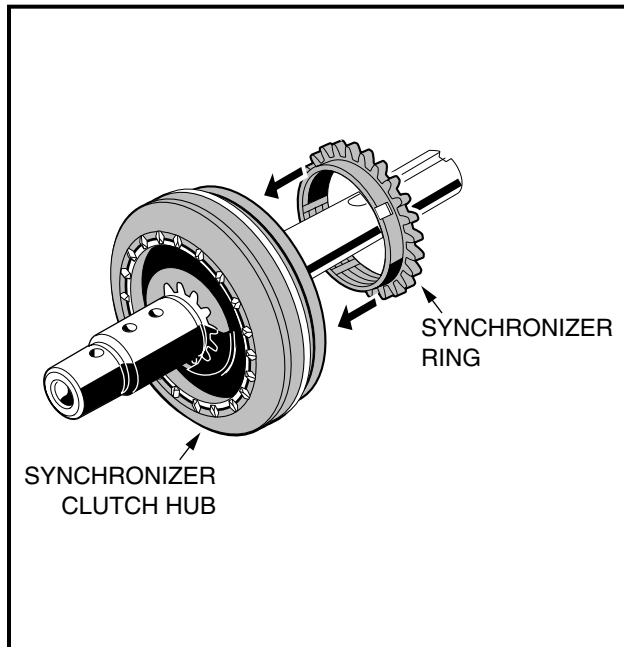

Figure 7-32 Synchronizer Ring
- 1.5. On the long end of the shaft (54), install the synchronizer ring (48) (**Figure 7-16, Page 7-9**) with the smooth collar of the ring towards the clutch hub. Make sure the three notches in the collar mate with the synchronizer inserts in the synchronizer sleeve (**Figure 7-32, Page 7-19**).
- 2.5. On the long end of the shaft (84), install the synchronizer ring (48) (**Figure 7-17, Page 7-10**) with the smooth collar of the ring towards the clutch hub. Make sure the three notches in the collar mate with the synchronizer inserts in the synchronizer sleeve (**Figure 7-32, Page 7-19**).